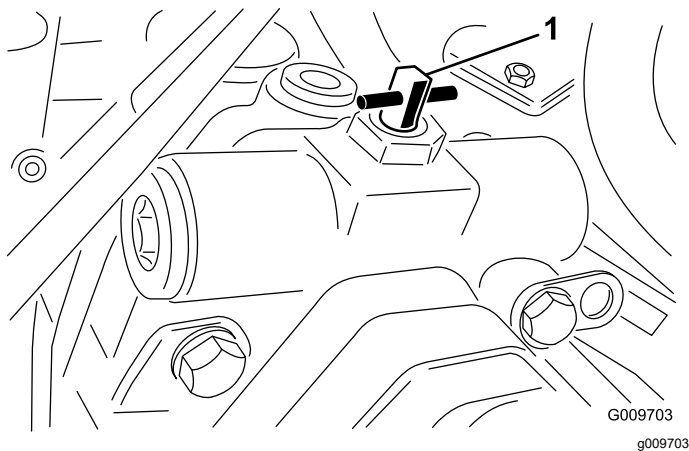

Figure 56
7. Open the tow bypass valve of the traction pump by rotating it 90° (1/4 turn) in either direction (Figure 56).
2. Open the tow bypass valve of the traction pump by rotating it 90° (1/4 turn) in either direction (Figure 56).